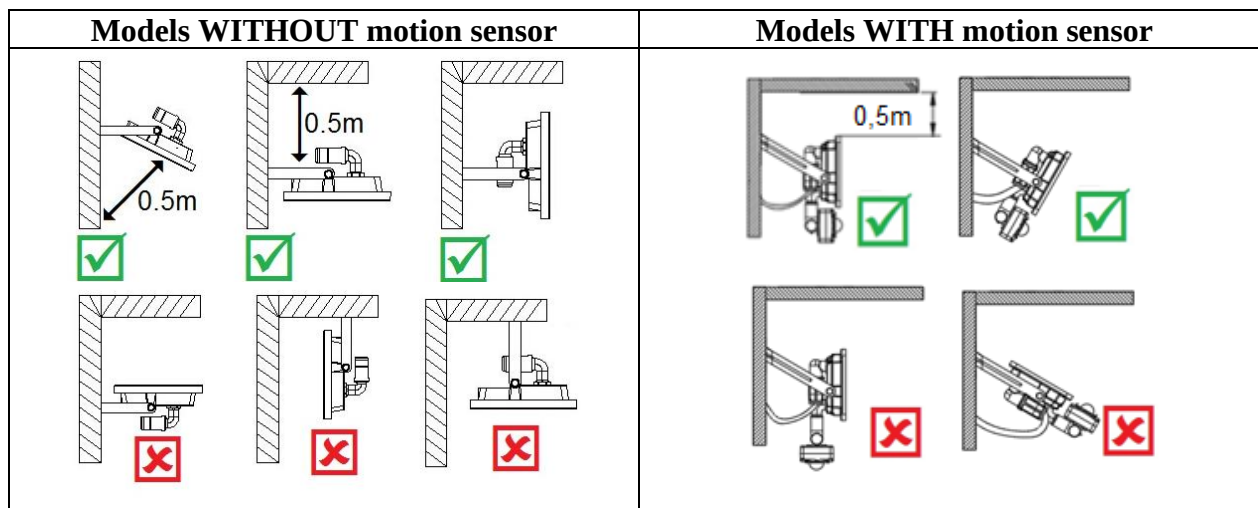

Fig. 2
- Maintain a ventilation gap of at least 0.5 meters between the luminaire and surrounding objects (refer to Fig. 2 for examples).